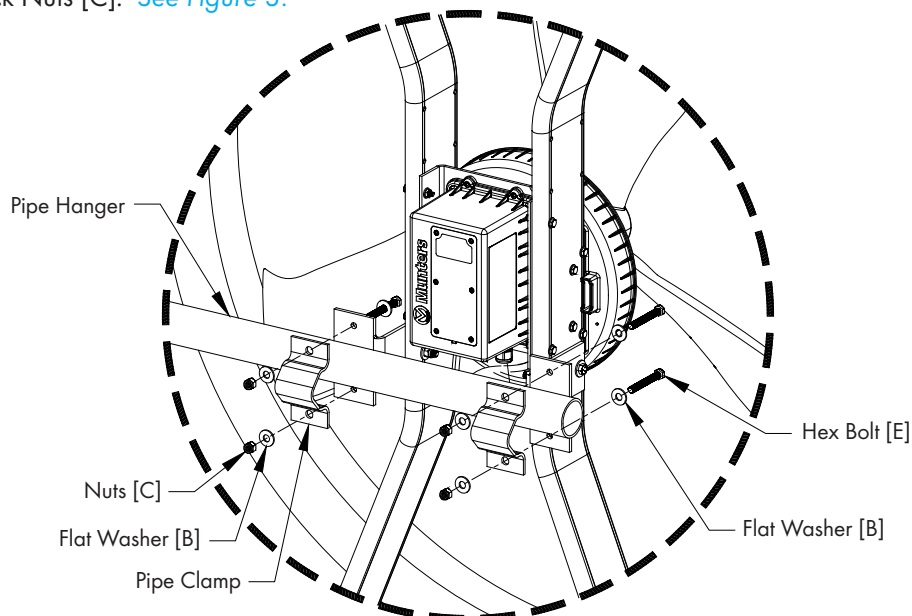

Figure 3
Secure fan to Fan Pipe Hanger using (2) Pipe Clamps, (4) 3"L. Hex Bolts [E], (8) Flat Washers [B] and (4) Nylock Nuts [C]. See Figure 3.